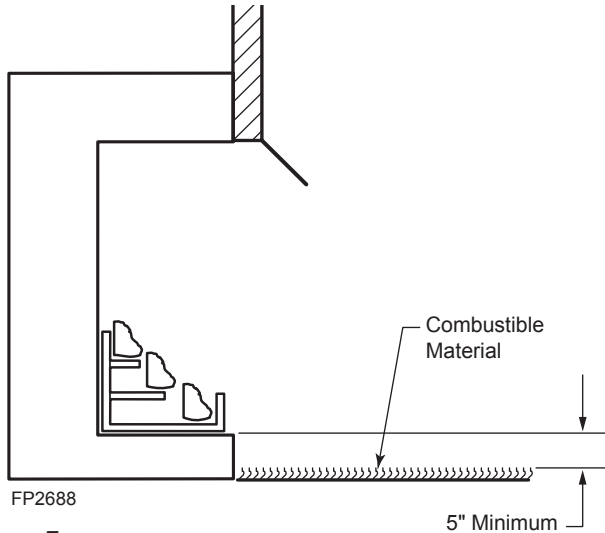

Figure 7 -
- 5. Floor clearance:** This inner chamber firebox floor must be installed at least 5" above any combustible flooring material, such as carpeting or asphalt tile, which is closer than 14" to the base of the firebox. *Figure 7*